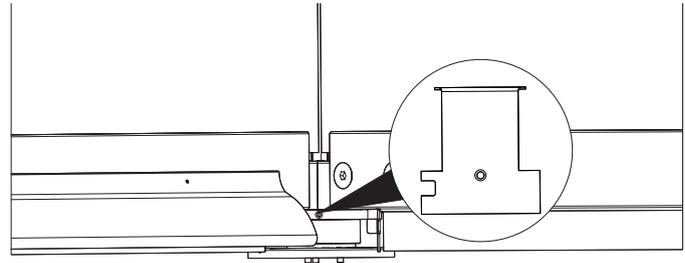

Fig. 100 Mount the covers on the lower cross fitting
17. Mount the covers (Fig. 100/2) on the outside of the lower cross fitting (Fig. 100/1). If necessary, Shorten covers first.